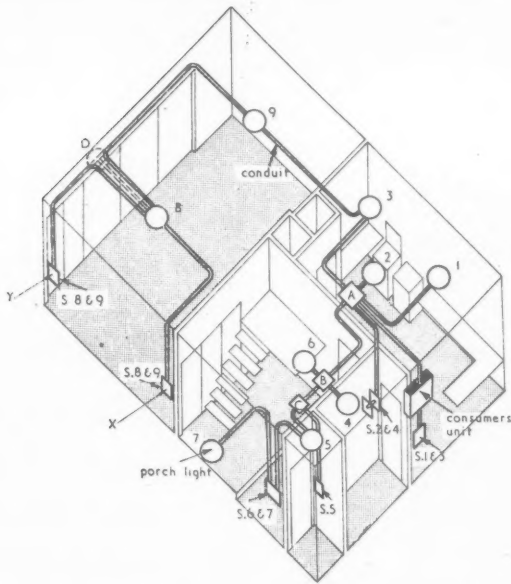
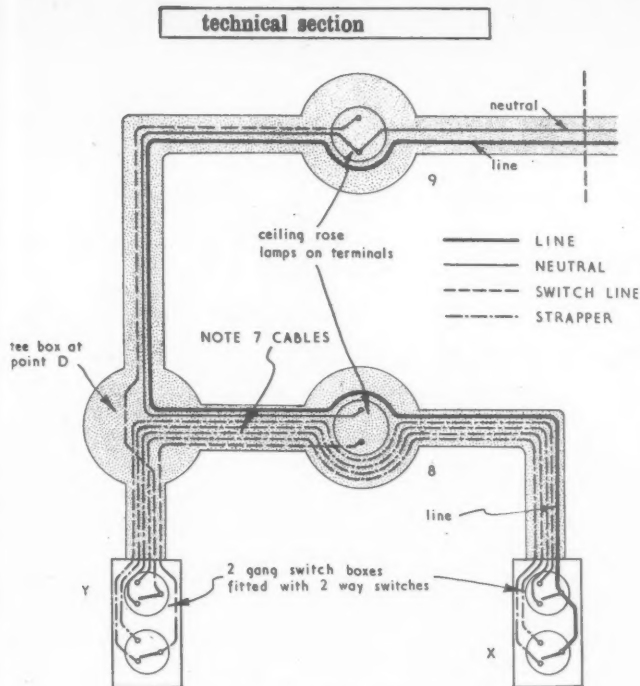

Fig. 9 (above), axonometric drawing showing conduit for ground floor lighting points. Fig. 10 (below), circuit for two-way switching applicable to conduit.
Fig. 12, cable routing in living room if additional conduit box is used.
**Ground floor lighting:** The conduit to the ground floor lighting will run in the interfloor space, and should be so laid out that the minimum number of traps need be cut for access to boxes, without however, neglecting the requirements for good practice. What seems to be the best layout is shown in Fig. 9, in the form of an axonometric. There are only three boxes over which traps need be cut, and these are marked A, B and C. The last two are only about 5 ft. apart, and could both be covered by one short board.
**Wiring to two-way switching:** Referring again to the circuit for two-way switching given in the previous article, and here repeated in Fig. 10, it will be seen that a live feed must be brought to one side of one of the switches. As explained in the preceding article the red feed can be looped either from the ceiling rose, or from the switch, and where we have two switches mounted in one box it is necessary to bring in one feed cable only, and to loop it from one switch to the other. In this case we can bring this live feed either to the switches by the hall door, X, in Fig. 9, or to those by the outside door, Y. We must then take two cables from each switch over to the other switch position and from each switch in the second box we take the switchline on to the ceiling rose.
Fig. 12 shows the result if a box is placed at the point D, as was indicated by dotted lines in Fig. 9. In this case seven cables have to be accommodated in the conduit running between D and the rose above point 8, so that either a 1-in. conduit would have to be used, or a double run of  $\frac{3}{4}$ -in. conduit would be necessary.